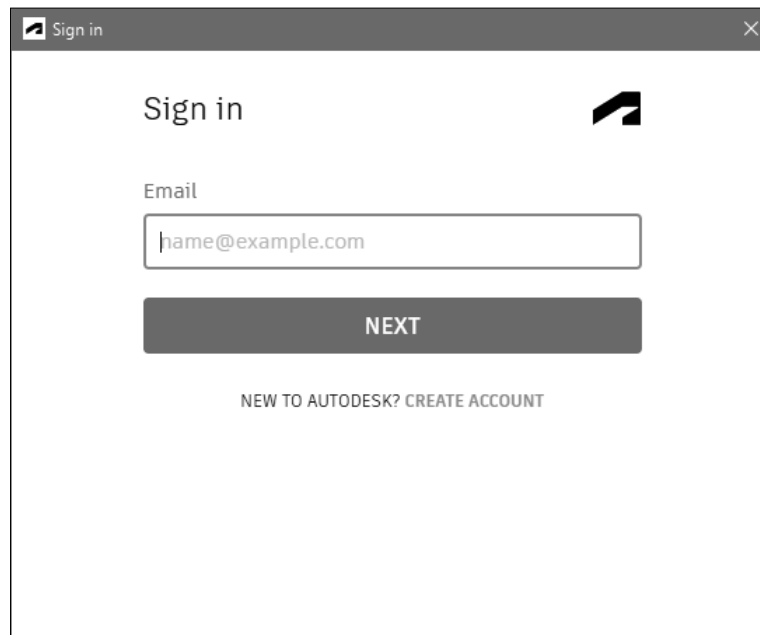

Figure-6. Sign in dialog box
- On running the software first time after installation, a dialog box will be displayed for licensing; refer to Figure-6.